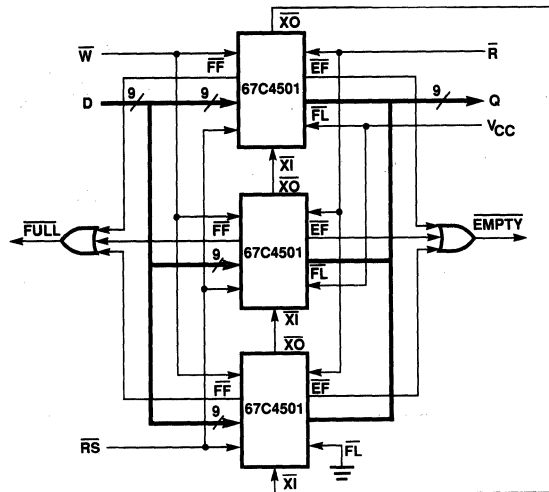

Figure 12. Depth-Expansion to Form a 1536x9 FIFO
1. \overline{XI} is connected to \overline{XO} of previous device. See Figure 12.
Depth-Expansion Mode is configured during the Reset cycle. (See Figure 12 and Table 2.) Expansion Out (\overline{XO}) of one device must be connected to Expansion In (\overline{XI}) of the next device, with \overline{XO} of the last device being connected to \overline{XI} of the first device. The device that is to receive data first has its First Load (\overline{FL}) input tied LOW, while all other devices must have this input HIGH. Write and read control is passed between devices using \overline{XO} and \overline{XI} . A LOW-going pulse on \overline{XO} occurs when the last physical location, address 511, of an active device is written to, and another LOW-going pulse occurs when the last physical location of an active device is read. Only one device is enabled for writes, and only one device is enabled for reads at any given time.